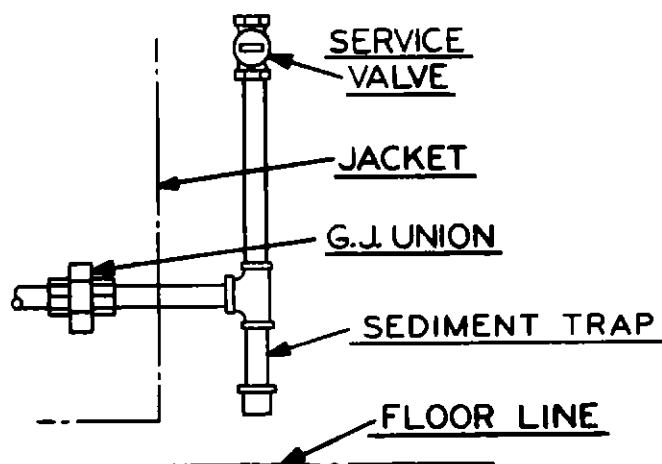

Figure 6
5. Locate a tee in the drop pipe at same elevation as the gas inlet connection to the boiler. Extend the drop pipe to a pipe cap as shown in Figure 6, to form a sediment trap.
6. If boiler is equipped with combination gas controls, install a ground joint union ahead of the gas control assembly to permit servicing of the control. See Figure 6. Some local codes require an additional shut-off valve when using the combination gas controls. If your code requires such a valve, a suggested location is shown in Figure 6.